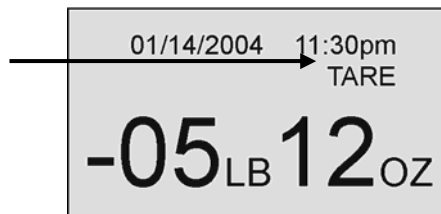

Figure 9. Tare Weight
The user can set a tare weight by pressing the TARE button (9) while there is a weight on the scale platform. The display will come to zero and TARE will be displayed to indicate there is a tare value in the memory (as displayed in Figure 9 above).